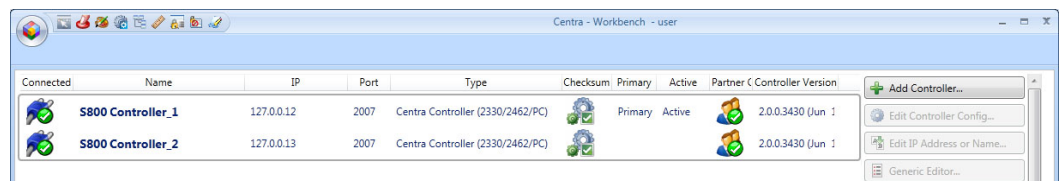

Figure 87 Workbench Controller Screen
1. Open Workbench and open the Configuration page. This will display the connected controllers including their IP address and status (see Figure 87).
8. Once the RTB file has been uploaded to the controller it will automatically reboot. You can follow the progress from Workbench (see Figure 87).
16. When the Nucleus2 controller has finished rebooting it's status will be shown as green in Workbench and the update is complete (see Figure 87).